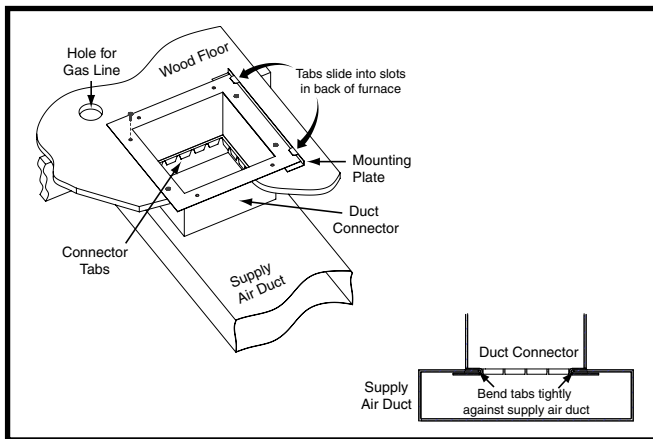

Figure 11. Finger Tabbed Duct Connector
- Remove the duct connector and cut out the marked area of the supply air duct 1/16" larger the actual cutout drawn. See Figure 11.
- Install the mounting plate (Figure 11) under the back side of the duct connector. Align the screw holes in both components.
- Bend the connector tabs on the bottom of the duct connector upwards and as tight as possible against the supply air duct. See Figure 11.